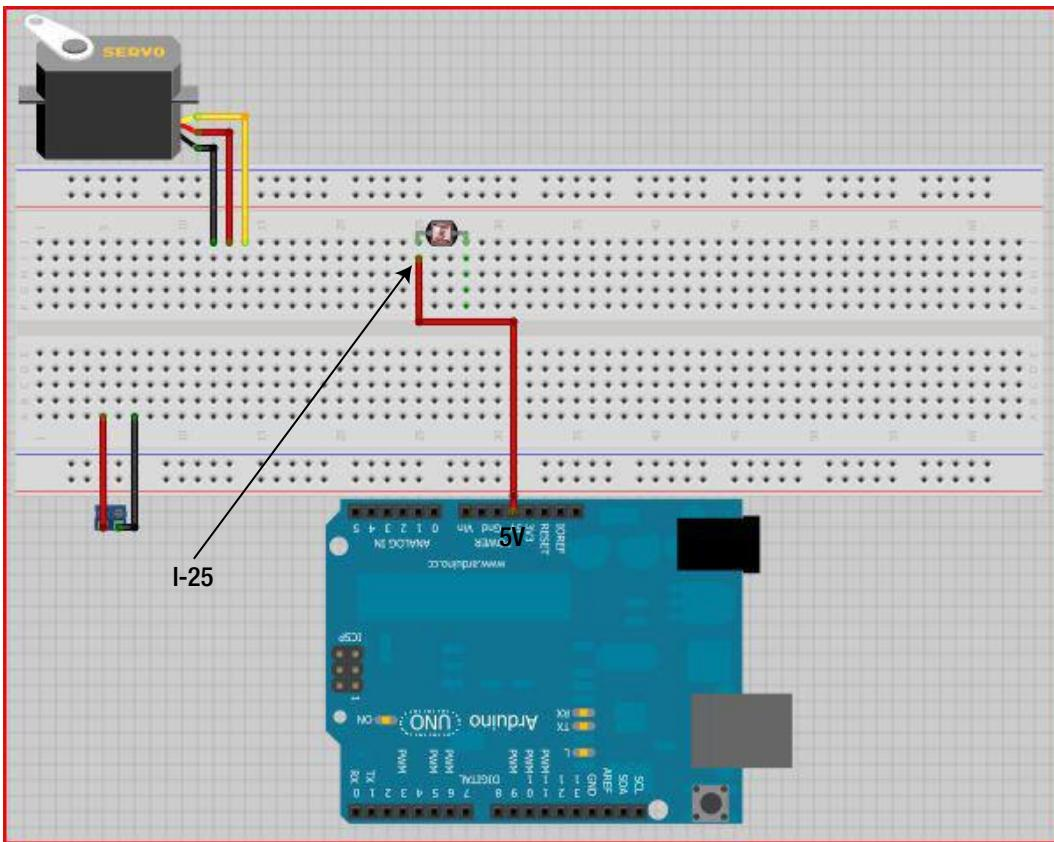

Figure 27-7. Connect 5V power from the Arduino to the photoresistor
6. Now run a jumper wire from the +5V pin on the Arduino to I-25 of the breadboard. (We used a red wire, but any color will work.) Figure 27-7 illustrates this process.